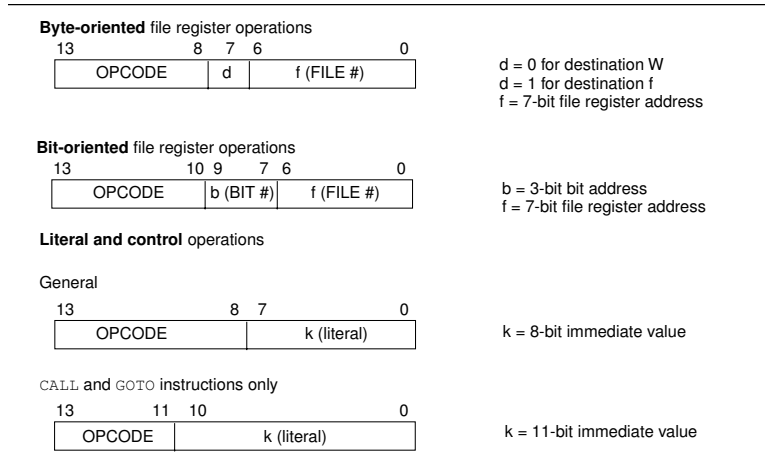

Figure 4: Format of instructions
The format of the instruction words are shown in Figure 4 (PIC 2001; Figure 13.1) . All instructions can use either direct or indirect addressing to access a register file. Since the addresses range from 00h to 7Fh in each bank, only 7 bits are required to identify the register file address and this is contained within the instruction. The eighth and ninth bits, which identify the bank, then comes from the register bank select bits (RP1,RP0) from the STATUS register. Figure (5) illustrates how the bits are composed to access the appropriate address. In indirect addressing, the 8-bit register